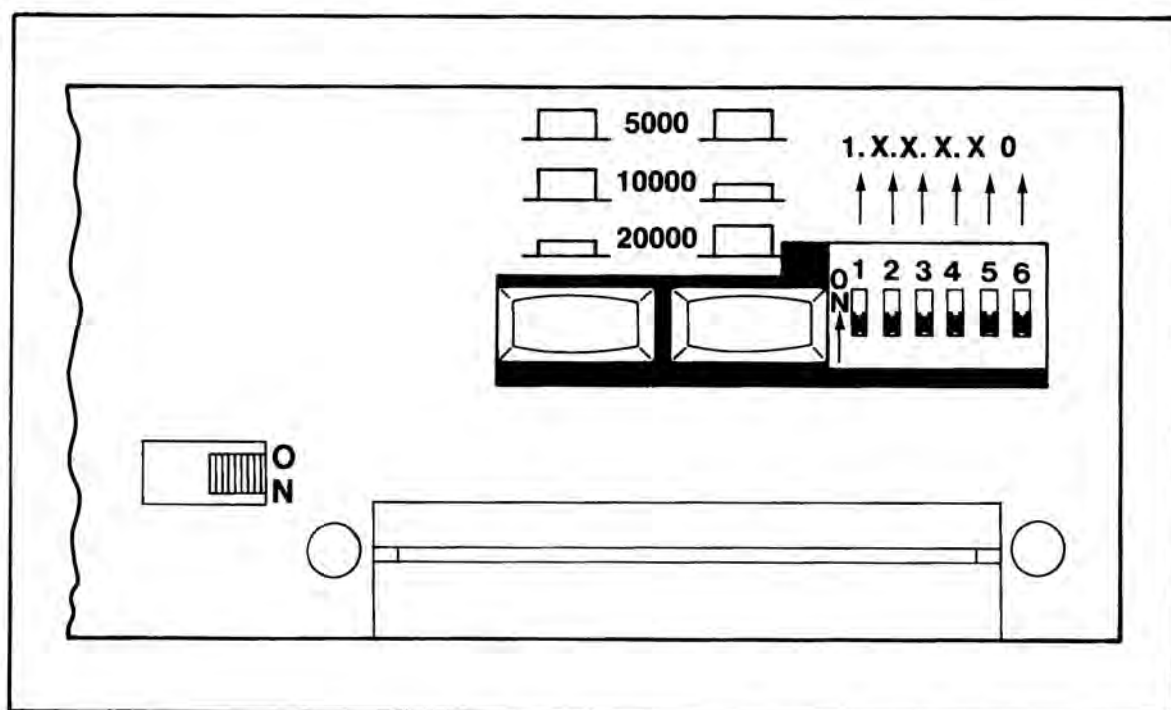

Figure 3. Scale, Decimal Point, Dummy Zero Switches
Scale selection is accomplished with the two pushbutton switches located at the rear panel. The panel is marked to indicate which switches are pushed IN or left OUT for the corresponding scale selection. The switches have a push-push action and are illustrated, with the scale selection coding, in Figure 3. With both switches OUT, the  $\pm 5000$  range is selected. With the left switch OUT and the right switch IN, the  $\pm 10000$  range is selected. With the left switch IN and the right switch OUT, the  $\pm 20000$  range is selected.
**Decimal Point/Dummy Zero Selection.** Decimal-point location and dummy-zero activation are selected with a rear-panel miniature slide switch bank. The switch bank is marked on the rear panel as shown in Figure 3. The decimal-point position can be fixed at any one of the display locations indicated on Figure 3. Place any one of slide switches 1 through 4 ON to light the decimal point at the desired location. Place slide switch 5 ON if no decimal point is to be lit. To activate the dummy zero (digit to the right of last active digit will continuously light as a zero), place slide switch 6 ON.
The only operation required is turning ON/OFF ac power to the instrument. This is accomplished with the rear-panel slide switch (see Figure 3). The display lights immediately when ac power is ON.